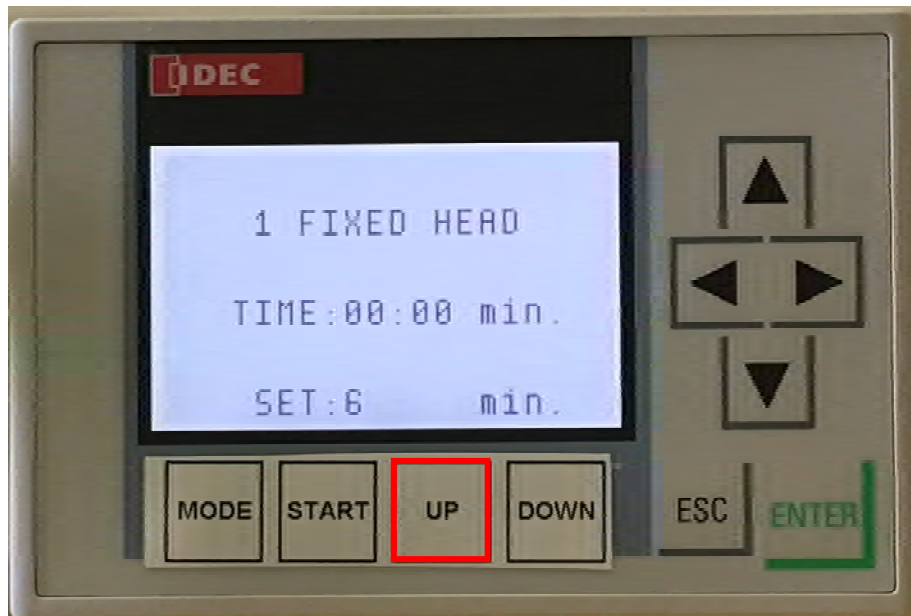

FIGURE 17
4.5.6 Injection time must be input prior to starting a Fixed Head Mode cycle. To increase the amount of time injected, press UP (Figure 17)